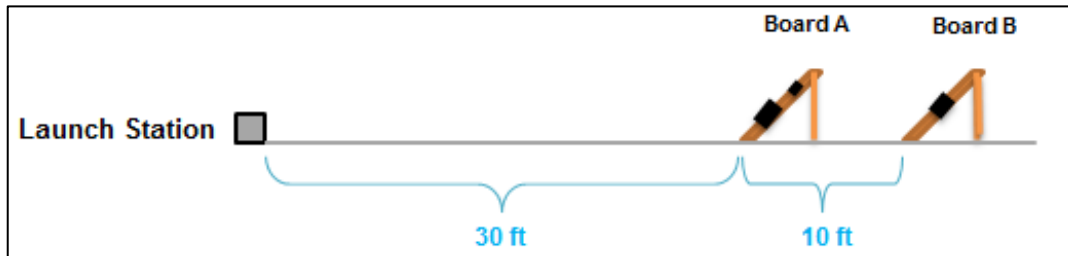
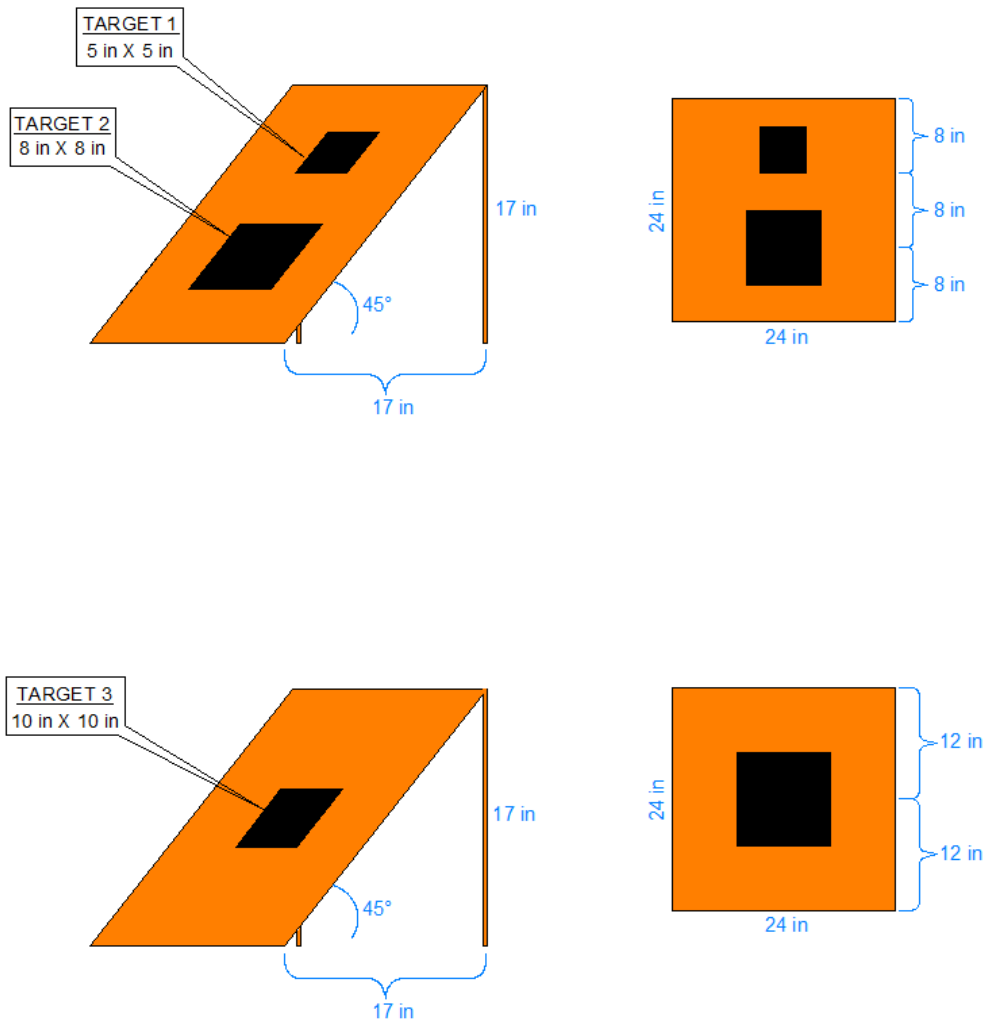

Figure 1: Launch Area Diagram
Figure 2: Targets
- a. Ability to hit targets at 30 ft. and 40 ft. from launch line (See Figure 1: Launch Area Diagram, Figure 2: Targets).